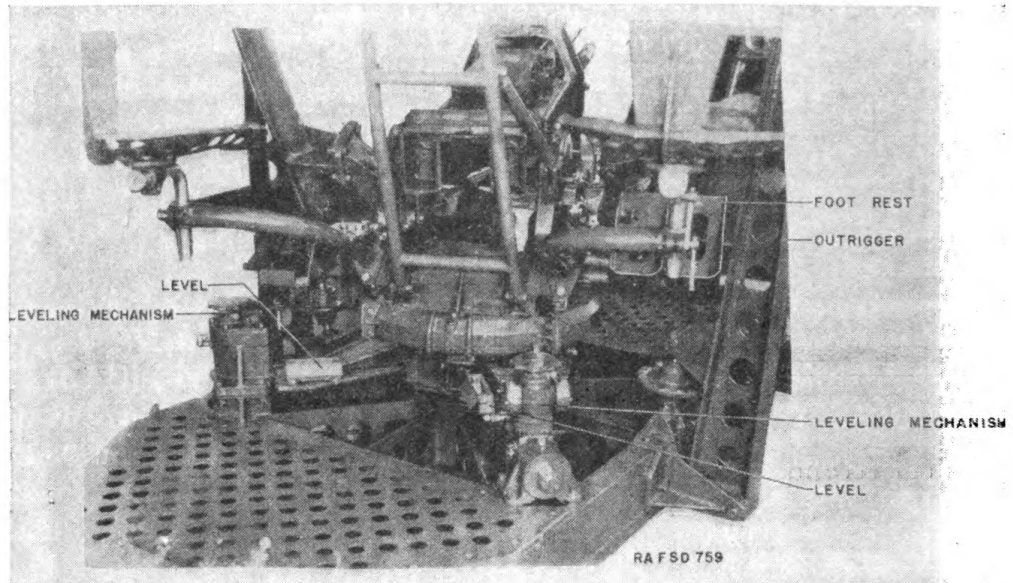

FIGURE 27.—Leveling mechanism.
Q. Point out the parts shown in figure 27. A. See figure 27.